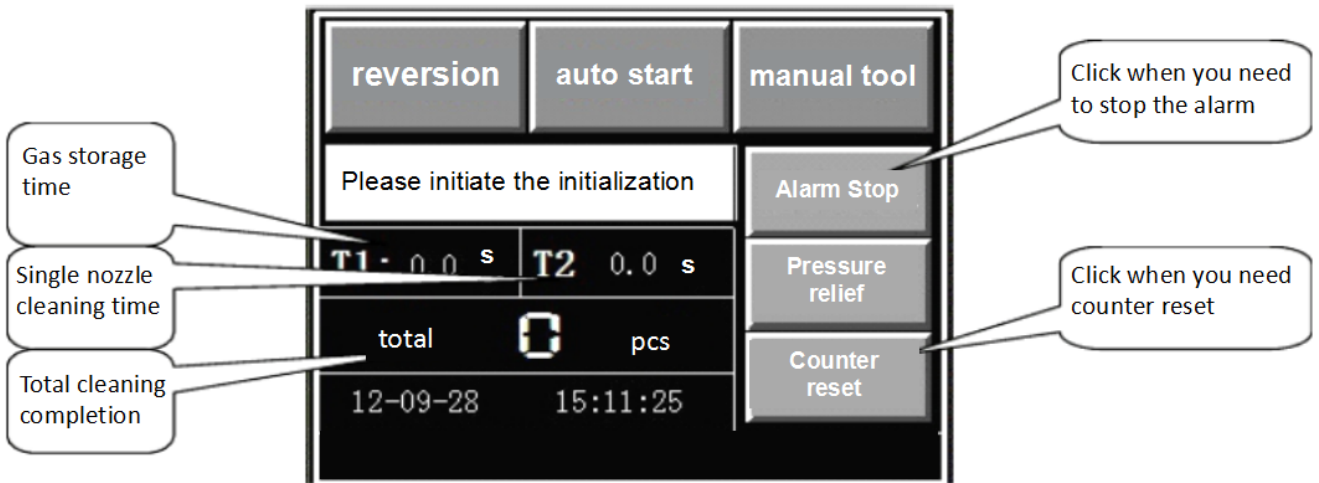

Figure 3.2
4. Click Figure 3.1 [into system], and appear on the interface, such as Figure 3.2. If you need to set parameters, enter the manual tool interface for parameter settings (detailed please
6. Click Figure 3.2 [reversion], then click Figure 3.2 [auto start] (after click finish is displayed as automatic stop) or press the boot button of the device